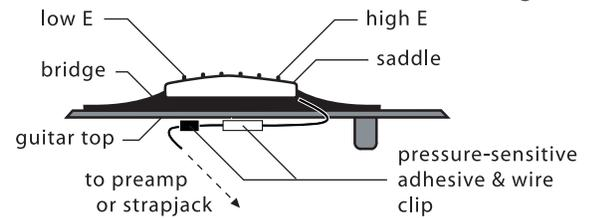

fig. 5
5. Insert the pickup all the way into the slot, lay the saddle on top of it and temporarily secure it with a piece of tape. Remove the backing from the adhesive on the end of the pickup hanging inside the guitar and attach it to the bridge plate or the underside of the top as shown in figures 5 or 6. Be careful not to place the adhesive over the bridge pin holes.